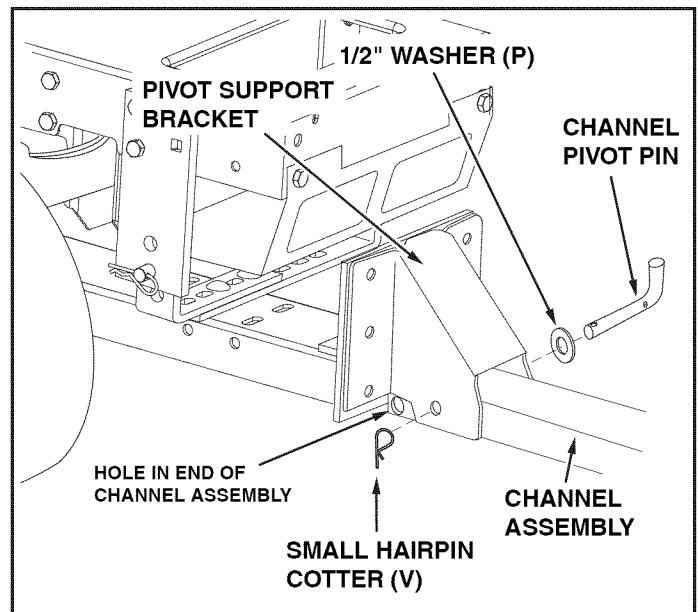

FIGURE 20 (Right Hand Side View)
STEP 20: (SEE FIGURE 20)
- Assemble the 1/2" washer (P) onto the channel pivot pin.
- Attach the channel assembly to the tractor by placing the end of the channel assembly up inside the pivot support bracket on the tractor. Align the hole in the pivot support bracket with the **second hole** in the channel assembly. Insert the channel pivot pin through the aligned holes from the left side and secure with a small hairpin cotter (V) pushed all the way through to the loop end.